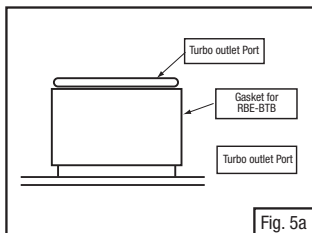

Fig. 5a
3. **NOTE:** If using Breathing Tube part number RBE-BTB ensure that the grey gasket is in place on the outlet port. Refer to Fig. 5a. If gasket is absent install gasket by sliding it over the outlet. Gaskets are included with part number RBE-BTB.